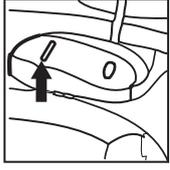

Fig. 8
6. Firmly hold the blower before turning ON. Turn ON the motor setting the switch in the '1' (ON) position (Fig. 8)